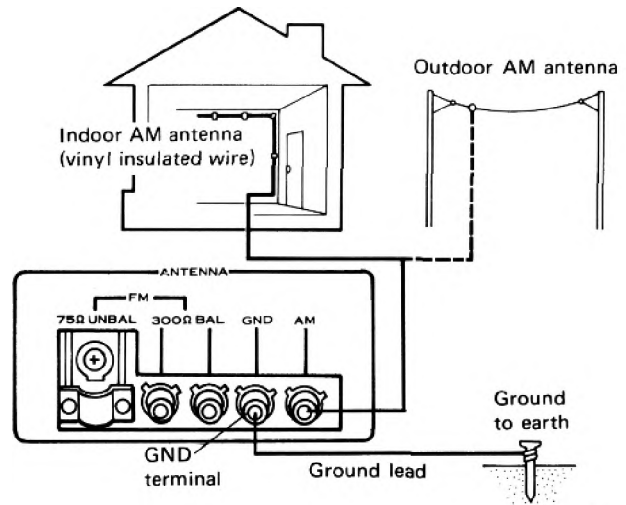

Fig. 8
- In cases when the bar antenna is insufficient for adequate reception, an indoor AM antenna can be made from a length (5 to 6 meters) of vinyl insulated wire as shown in Fig. 8, connect one end of the wire to the AM antenna terminal and suspend the free end from an wall or ceiling at as high a location as possible.
- If reception is still difficult with an indoor antenna, use vinyl insulated wire to erect an outdoor AM antenna between two supports as shown in Fig. 8.
From the viewpoint of both safety and reduced noise, Pioneer recommends that you employ a ground as shown in Fig. 8. Connect the ground lead to the GND terminal of the receiver. Never connect it to a gas pipe or other dangerous location.